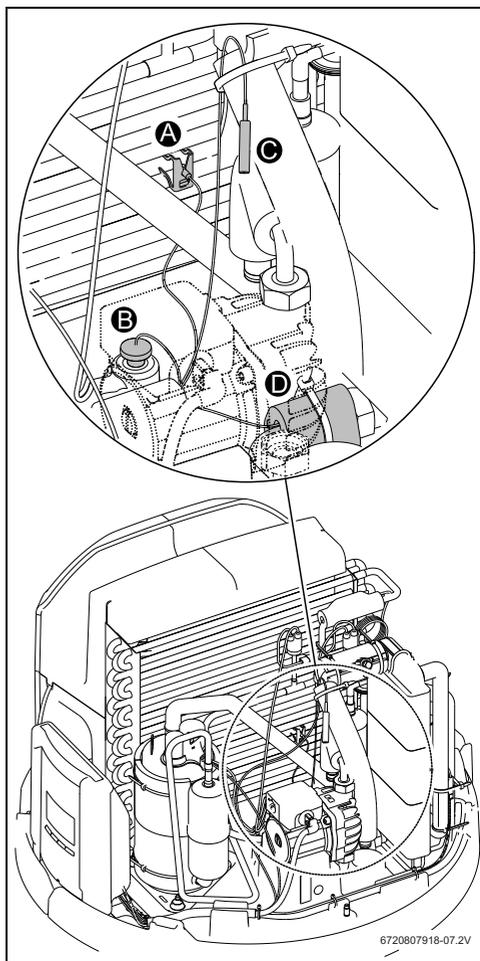

Fig. 19 Sensor positioning
- Are the sensors at their correct place (Fig. 19, [A - fins temperature], [B - top tank temperature], [C - air temperature] and [D - bottom tank temperature])?
- ▶ Locate the sensors according to Fig. 19.